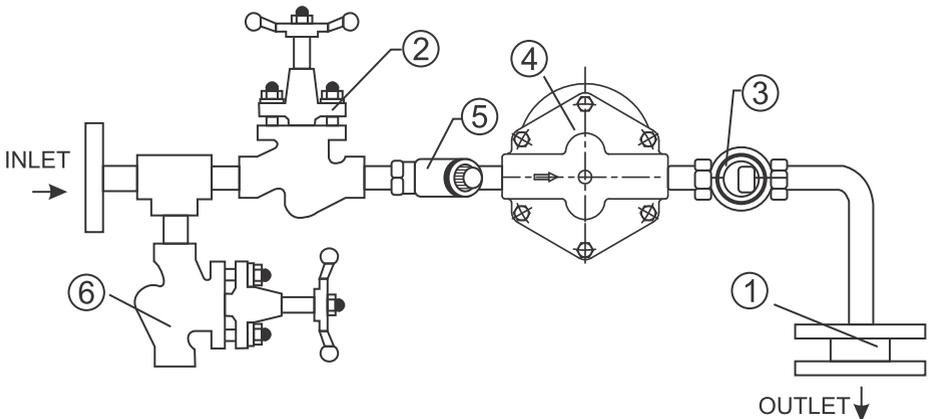

Figure 4 : Single Orifice Float trap module
5. Installation Guidelines :(Refer to Figure 4, 5 , and 6)
3. Ensure the availability of all components as shown in Figure 4, to ensure the operation of the trap.
6.1 Flushing of Lines : (Refer to Figure 4)
6.2 Commissioning: (Refer to Figure 4)